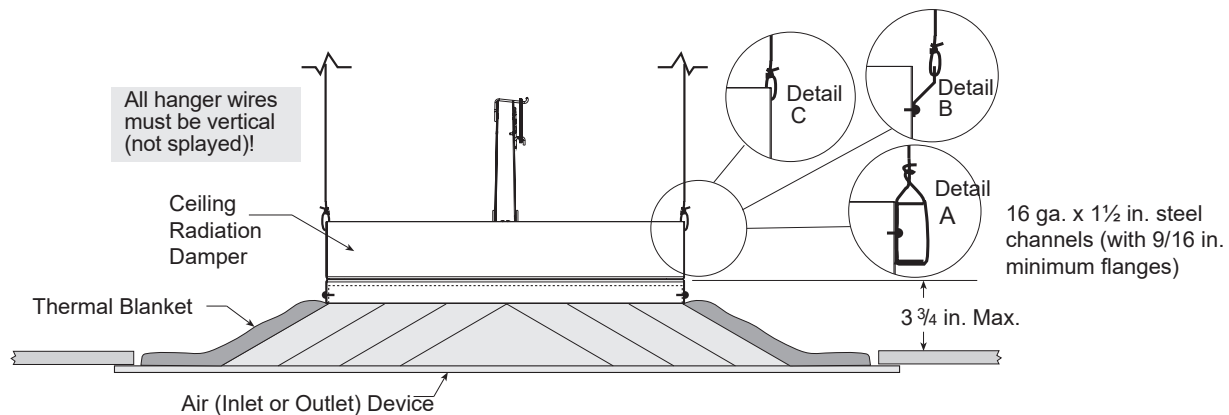

Figure 10
1. Ceiling Radiation damper may be connected directly to the air device neck and supported by steel channel (see **Detail A, Figure 10**).
2. Ceiling radiation damper may be connected directly to the air device neck and supported by hanger straps (see **Detail B, Figure 10**).
3. Ceiling radiation damper may be connected directly to the air device neck and supported by direct suspension with wires looped through holes in the damper frame before typing (see **Detail C, Figure 10**).
Models CRD-1, CRD-1LP, CRD-2, and CRD-60 may be installed as shown in Figure 10 (model CRD-1 & CRD-1LP illustrated).